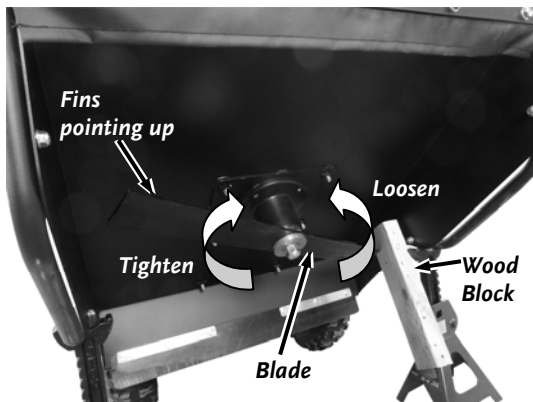

Figure 24
1. Brace the Blade with a block of wood between the Blade and the Mower Deck (**Figure 24**).